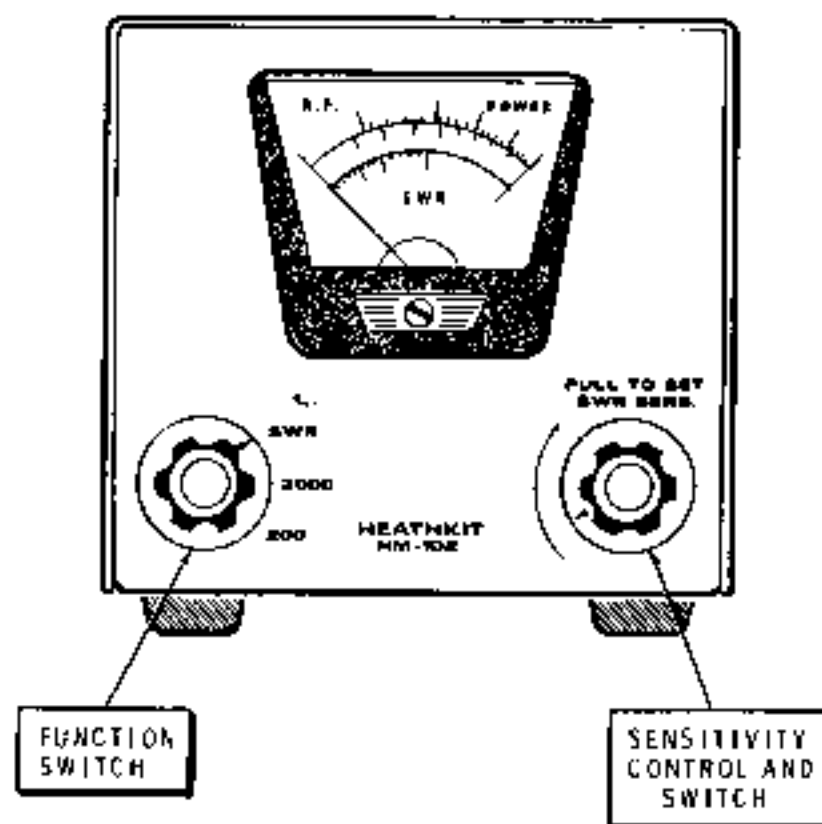

Figure 2
4. (✓) Set the FUNCTION switch to 200. (See Figure 2.)